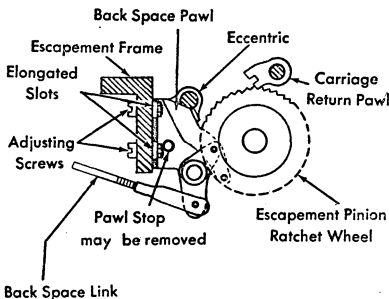

Figure 11. Backspace Mechanism
The backspace assembly is attached to the escapement mechanism frame by two screws. It is operated by a cam, a backspace bell-crank assembly and side and rear operating links. The backspace pawl moves downward to engage the escapement-pinion ratchet wheel which it rotates until the carriage-return pawl engages an adjacent tooth. This rotation has moved the carriage one unit to the right. Because the original backspace-pawl bracket had a non-adjustable final pawl stop, it was possible to lock up the carriage on a simultaneous operation of backspace and carriage return. This final stop was not needed; hence it was discontinued in order to prevent this condition (Figure 11).
Remove the backspace-pawl link and the lower backspace-pawl bracket-mounting screw. Loosen the nut of the upper-bracket mounting screw and remove the assembly from the bottom of the machine (Figure 11).
4. **BACKSPACE-PAWL LINK** (Figure 11) is adjusted for $\frac{1}{64}$ " clearance between this link and the working side of the round hole in the intermediate bell crank. Check this condition with all parts at rest. (Because it is easier to adjust the backspace operating link, any minor adjustments can be made with this link.)